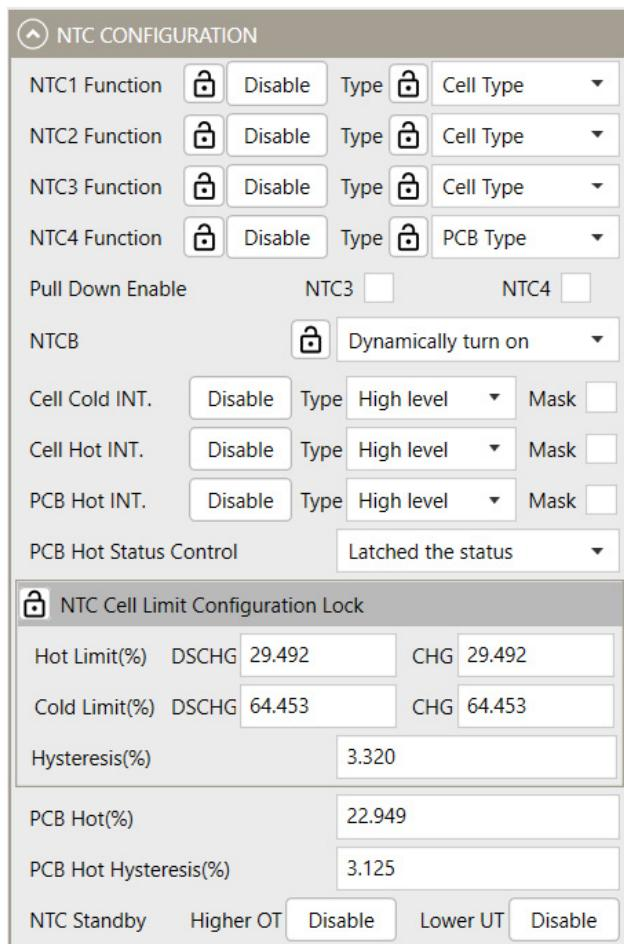

Figure 19: NTC Configuration
14. Figure 19 shows how to configure the negative temperature coefficient (NTC).